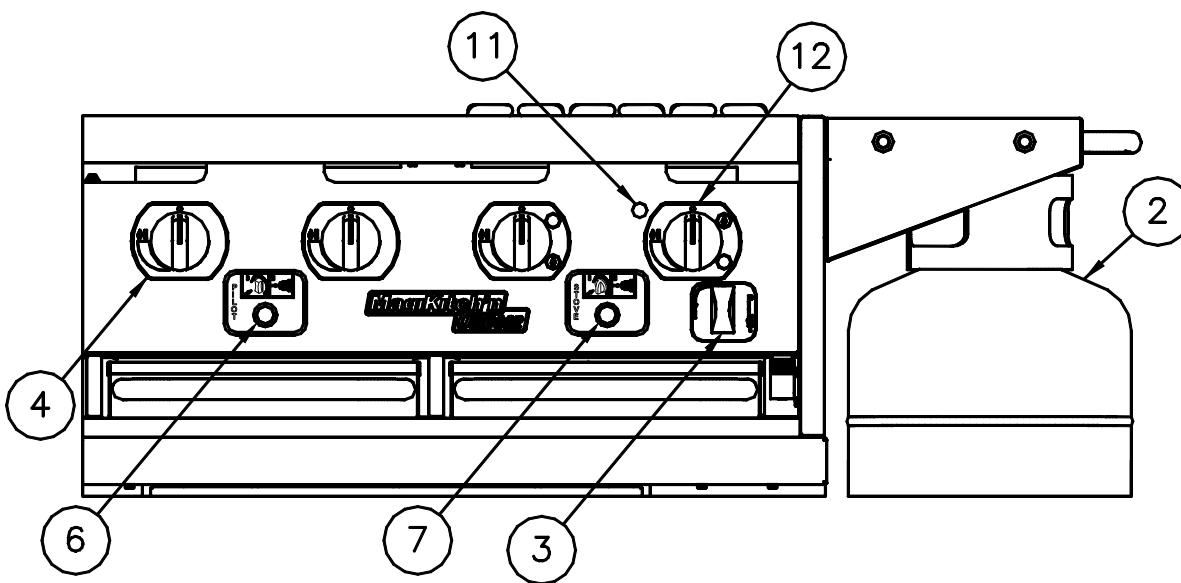

FIGURE 5
Allows gas to flow to the main burners. This should only be in the on position if the pilot runner tubes have been ignited and flame has been verified. These knobs may also be used for the side burner valve(s) (12), see figure 5, if so equipped.
Prior to lighting the unit, make sure all gas valve knobs are in the “Off” position, proceed when all gas valves are closed. If your appliance is equipped with a hood, make sure the hood is in the raised open position. Refer to figure 5 for the following steps unless otherwise instructed.
- Turn all the main burner valve(s) (4), or side burner valve(s) (12) to the “Off” (0) position.
- Turn off the pilot valve(s) (3) to the “Off” (0) position.
- Close the valve on the approved propane cylinder (2). See Figure 5.